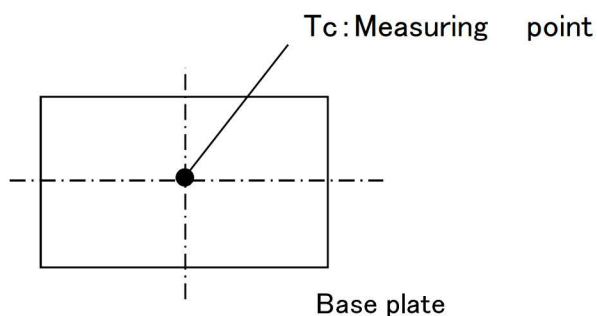

Fig.1.1 Measuring point of aluminum base plate temperature
- (1) Input : AC 85 ~ 264 [V]
(2) Output : Rated output
(3) Aluminum base plate temp : 95 [°C] (TUXS200F50,42) (Fig1.1)
90 [°C] (TUXS200F32) (Fig1.1)
85 [°C] (TUXS200F28) (Fig1.1)
80 [°C] (TUXS200F24) (Fig1.1)